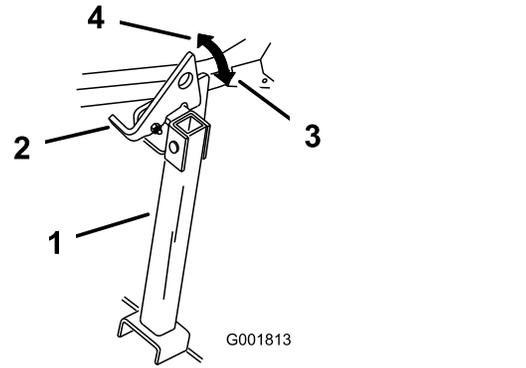

Figure 46
- Raise the latch to the unlocked position (Figure 46).